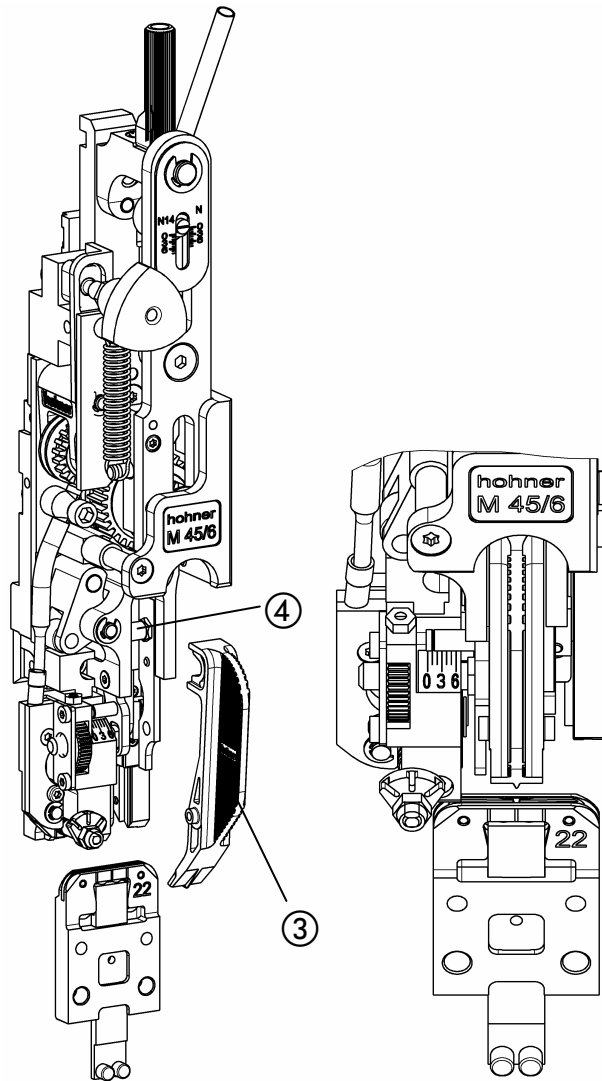

Fig. 8
- Fig. 8 -
- Remove the former (see page 37). Place gauge ③ on former locating pin ④ and rotate downwards towards the stop. In this position the clincher box can be precisely adjusted by aligning the gauge with the scale marks on the clincher box.
- Tighten clamping nuts ① and remove gauge ③. Replace former.